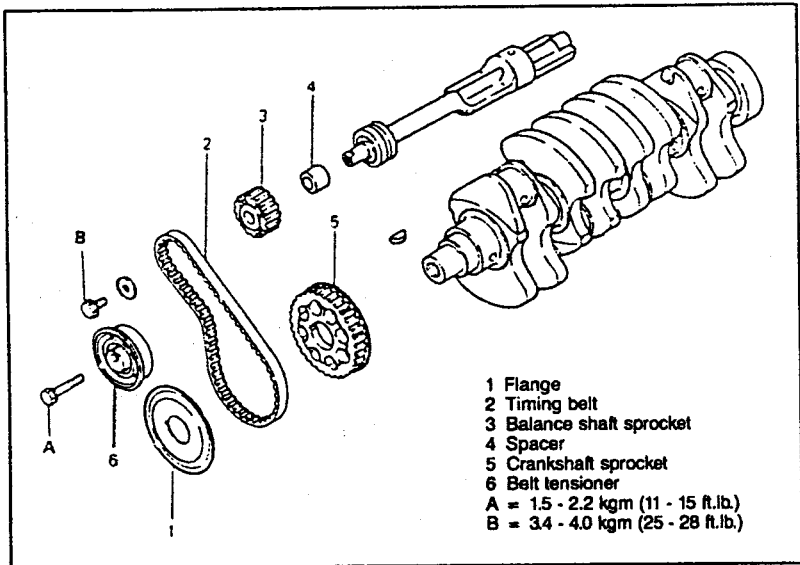

Fig. 15.23. — The drive parts for the balance shaft. The letters refer to the tightening torques.
shaft is mounted in five bearings and driven by a toothed belt. The belt also drives the injection pump gear and the oil pump (this in turn driving one of the balance shafts) and is kept under tension by a belt tensioner, fitted to the centre of its run. The opposite side of the belt is routed over an idler wheel. A second belt, having its own belt tensioner, drives the second balance shaft. Fig. 15.5 shows the component parts of the camshaft timing drive. Fig. 15.23 shows the drive for the second balance shaft.
- Fit the balance shaft timing gear (3) in Fig. 15.23 and provisionally fit the bolt.